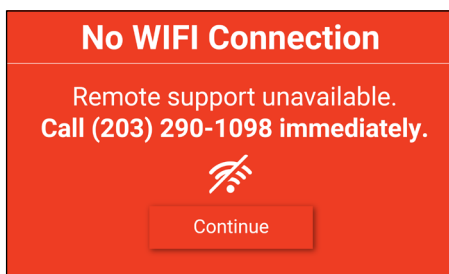

Figure. 16. No WIFI Connection
1. If the Guardian System is unable to connect to WIFI when a new patient is enrolled in therapy the "No WiFi connection" alert will display. When this "No WiFi" alert occurs, an auditory alert will also sound for 3 minutes. This means that remote support is unavailable. Please contact TurnCare at (203) 290-1098. (Fig. 16)